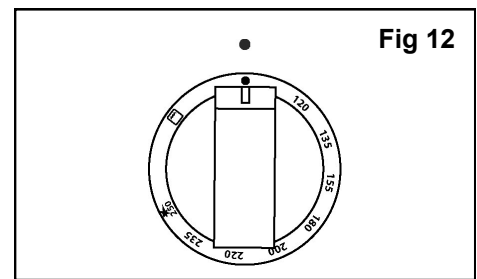

Fig 12
• Flame Extinguishing (Fig 12)